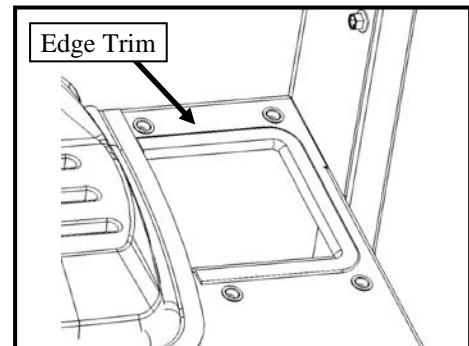

Figure 1.3: Apply Edge Trim
- 1.3 Apply edge trim to the newly exposed sheet metal edge to protect hoses as shown in Figure 1.3.